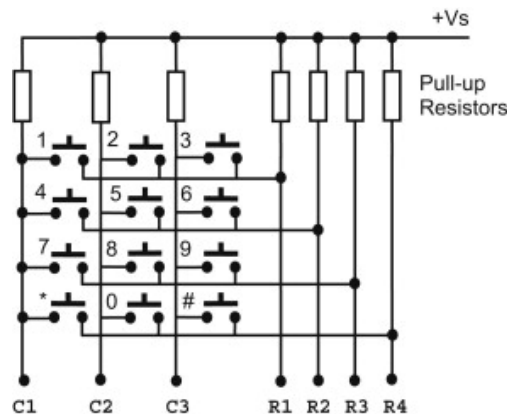

Figure 10.17. Keypad connections
5. (a) Investigate how input from a numeric keypad can be detected. Refer to Chapter 1, Section 1.4.1. The typical keypad, shown in Figure 10.17, has 12 keys in four rows of three: 1, 2, 3; 4, 5, 6; 7, 8, 9; *, 0, #. These are connected to seven terminals, and can be scanned in rows and columns. A key press is detected as a connection between a row and column. The pull-up resistors ensure that all lines default to logic '1'. If a '0' is applied to one of the column terminals (C1, C2, C3), and a key is pressed, this '0' can be detected at the row terminal (R1, R2, R3, R4). If